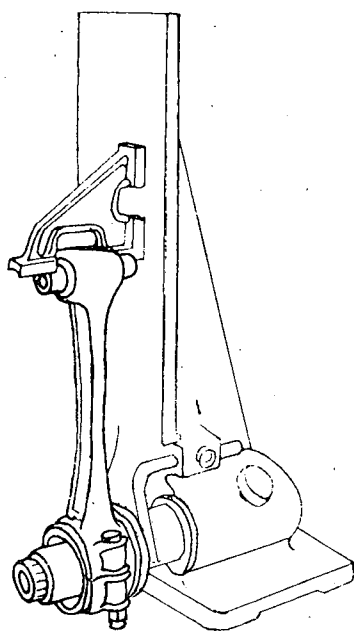

Fig. 3
b) Install the connecting rod with the bolt and check the parallelism of holes in the head and the bottom of the connecting rod (fig. 3).